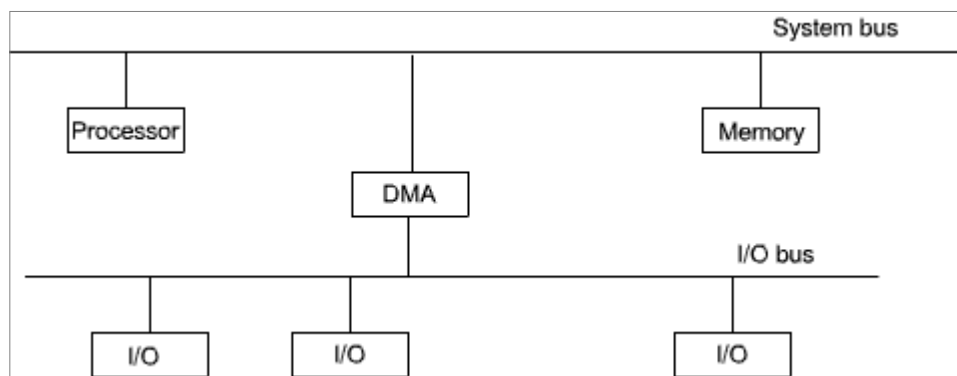

Figure 3.12: Separate I/O bus for DMA transfer
- There is another transfer phase between DMA module and memory. In this time system bus is needed for transfer and processor will be suspended for one bus cycle. The configuration is shown in the Figure 3.12.